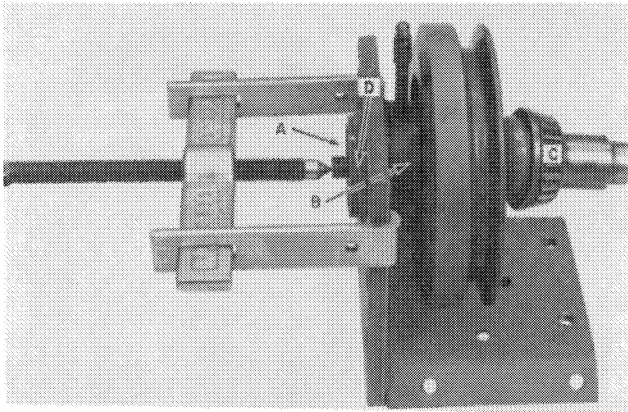

FIGURE 6
4. Remove the cap, cotter pin and hex nut from the wobble shaft at A, Figure 6. Use a bearing puller and push the wobble shaft and sheave assembly out of the support. Remove bearings, B, C, and D, Figure 6, from the wobble shaft with a bearing puller.
1. Install the wobble shaft assembly shown in Figure 6. Install a washer and hex nut and tighten until the bearings have a running fit of 6-10 in. lbs. (0.68-1.13 N·m). These bearings have an interference fit and must be properly seated before the nut is tightened. Install the cotter pin and cap.